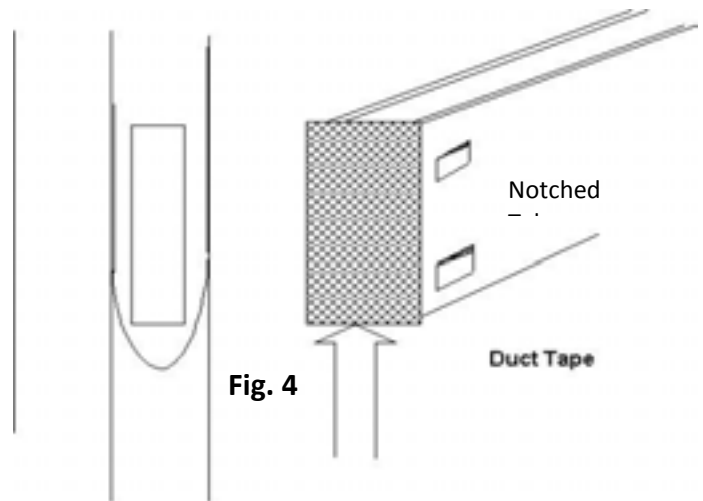

Fig. 4
**Note:** If the rail ends are cut to shorten the fence section, a tabbing (crimping) device can be purchased at any local hardware store to re-crimp the rail ends (Fig. 4).
**Note:** The rails which are to be placed into the corners, ends and gate posts (posts which will be back filled with concrete), must be duct taped before installing to prevent concrete from flowing inside of the rails (Fig. 4).